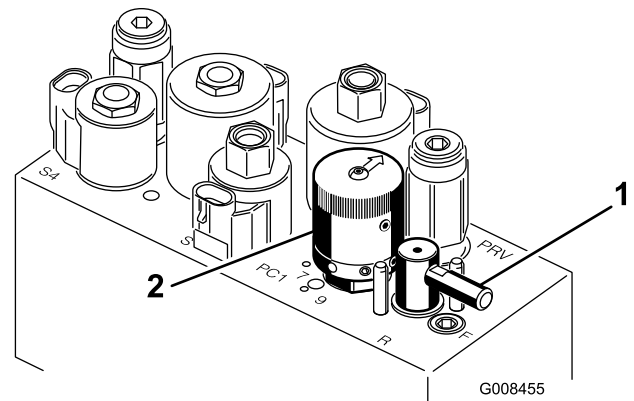

Figure 50
5. Rotate the backlap lever to the "R" position (Figure 50).
6. Rotate the reel speed control to setting 1 (Figure 50).